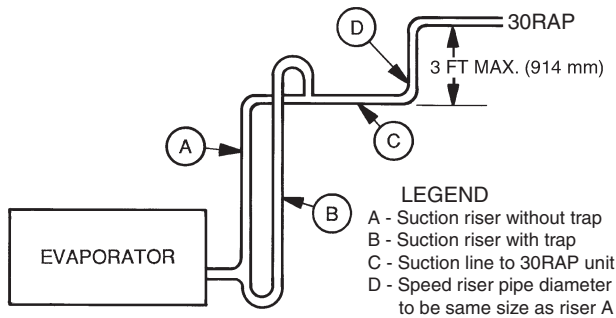

Fig. 8 — Suction Riser/Speed Riser Piping
11. Double suction riser is required on some units if refrigerant flow is up. See Table 5 for required units and piping details. Refer to Fig. 8 for suction riser and speed riser piping diagram.
a. Shading indicates double suction risers required. Refer to Table 5 and Fig. 8 for double suction risers/speed riser piping designations.